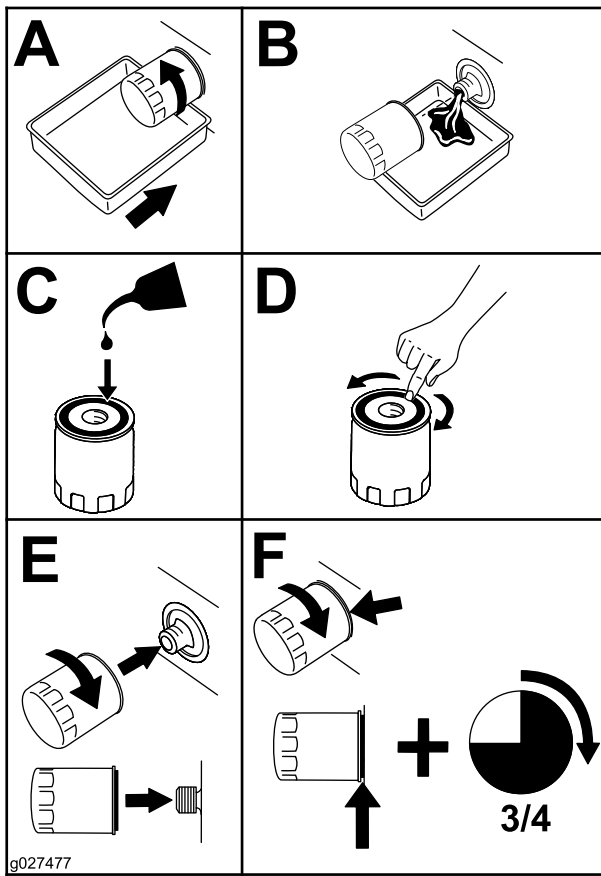

Figure 28
4. Change the engine-oil filter as shown in Figure 28.